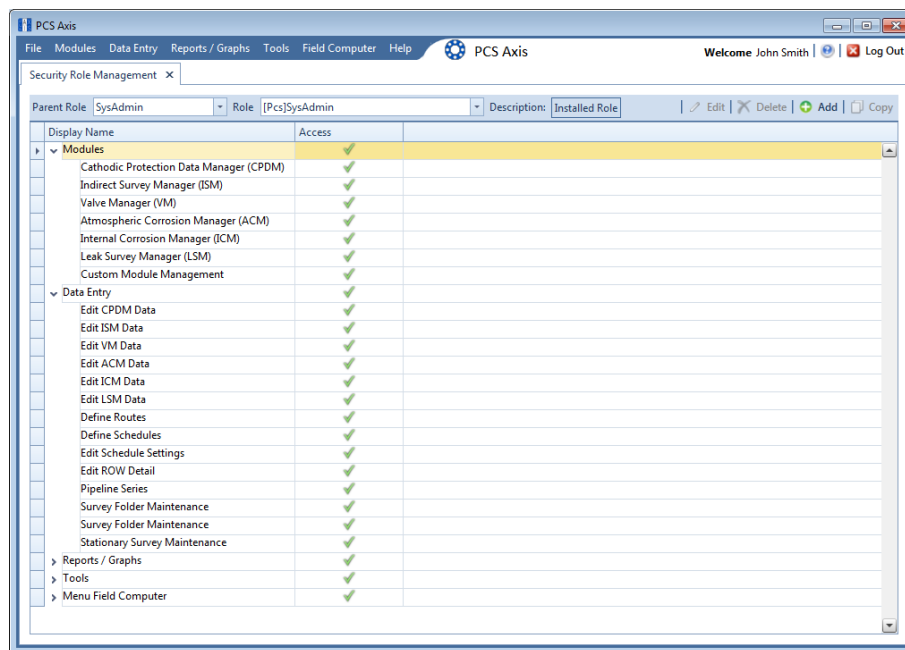

Figure 3-16. Security Role Management
- 1 Click **Tools** > **Security Role Management** to open the *Security Role Management* window (Figure 3-16).
- 1 If the *Security Role Management* window is not open, click **Tools > Security Role Management** (Figure 3-16, page 57).